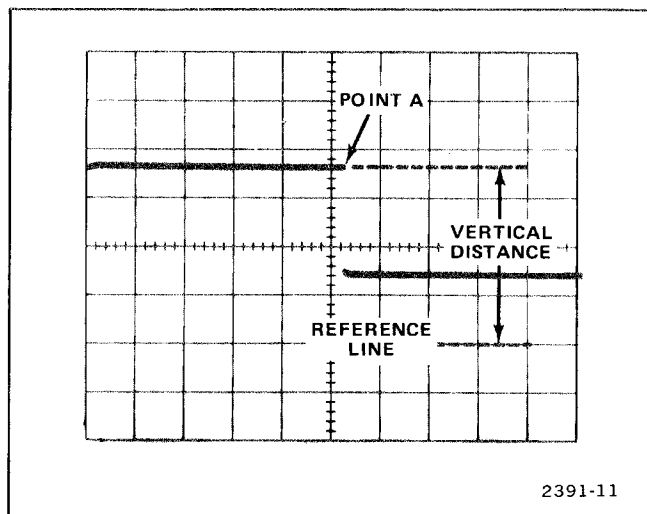

Figure 1-5. Measuring instantaneous voltage with respect to some reference.
7. Measure the distance in divisions between the reference line and the point on the waveform at which the dc level is to be measured. For example, in Figure 1-5 the measurement is between the reference line and point A.
**EXAMPLE:** Assume the vertical distance measured is 3.6 divisions (see Fig. 1-5) and the waveform is above the reference line using a 10X probe with a VOLTS/DIV setting of .5 V.